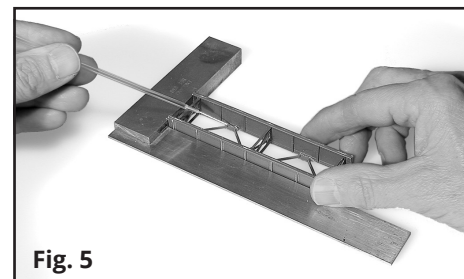

Fig. 5
c. It is important that the two girders are assembled square and as with a prototype bridge, the lateral bracing holds them square. Remove the rubber bands and place the girder assembly in a square as shown in fig. 5. Cement the lateral bracing while holding the girders against the square.